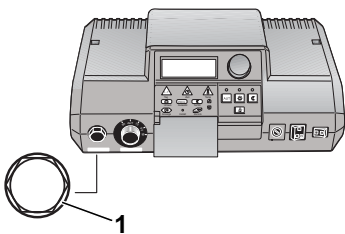

Fig. 6 Remove the STB cover.
- To reset the manual reset high limit, remove the cover on the STB and press the reset button located beneath it (Fig. 6).